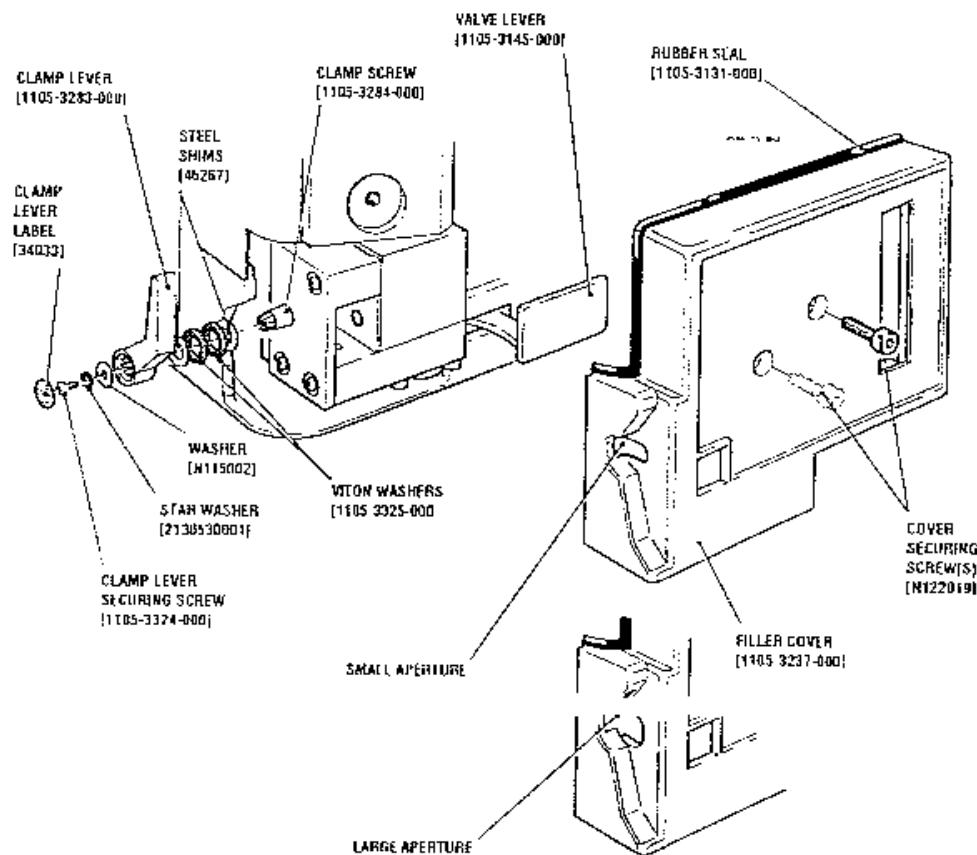

Fig. 8.4. Fitting The Keyed Filler Cover And Filler Gauge.
4. Ensure that the filler cover incorporates a small aperture to accommodate the clamping assembly, as illustrated on Fig. 8.4.
5. Position the filler cover assembly complete with rubber seal over the keyed filler assembly as illustrated on Fig. 8.4. Fit the one or two securing screws and torque tighten to 1.0 Nm using tool Part No. 2802-8052-000.